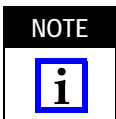

Figure 1
This instruction sheet covers the termination of all SC and FC singlemode, multimode, simplex, and duplex connector kits to fiber optic cable. See Figure 1. The connectors are used in telephone company central offices, CATV head-ends, inter-building backbones, and customer premise applications.
2. DESCRIPTION (Refer to Figure 1)